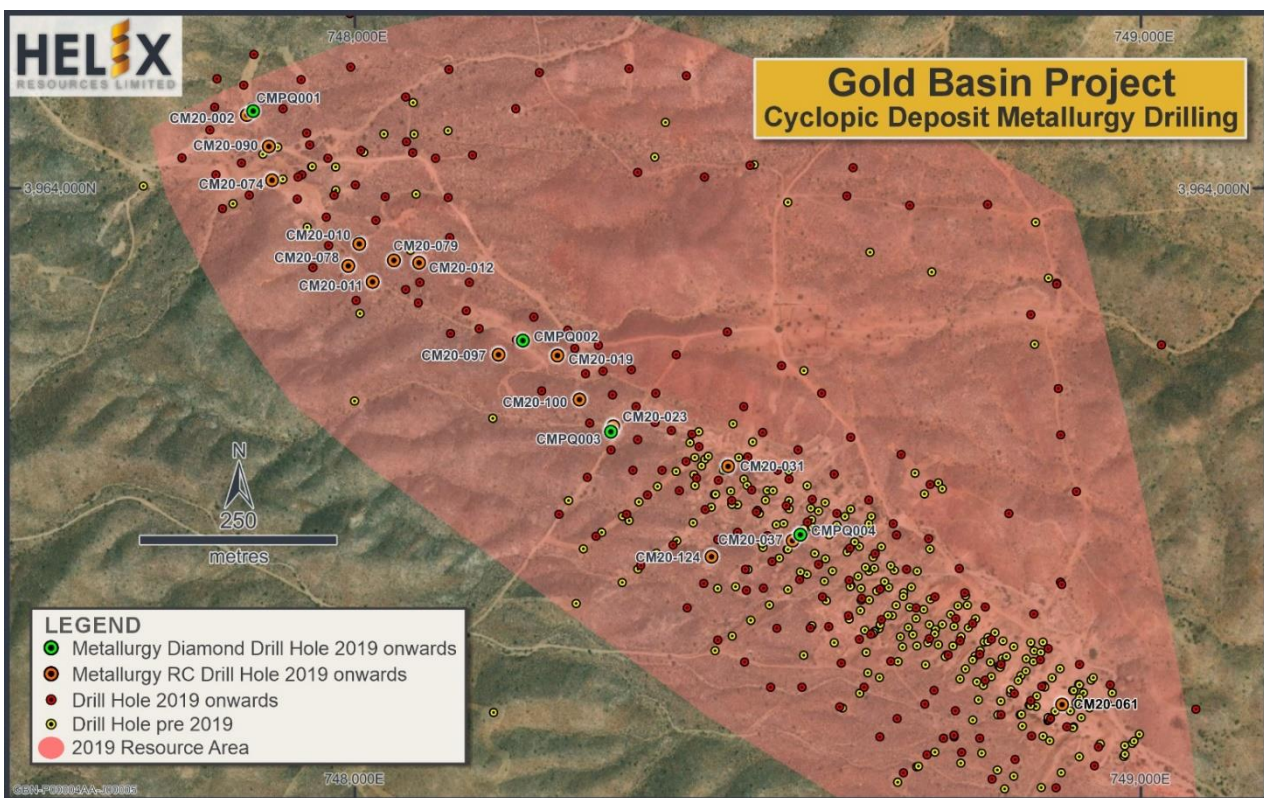
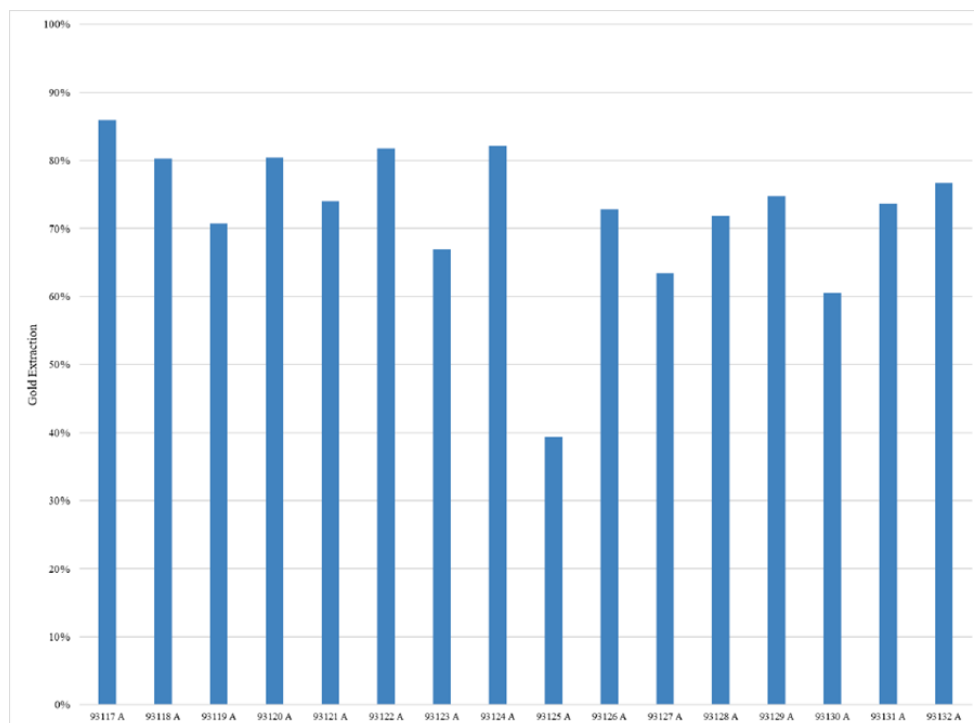

Figure 3: Collar locations of RC and PQ diamond drill holes sampled for metallurgical test work at Cyclopic.⁵ Diamond drill collar details shown in **Table 7**.
Figure 5: Gold Extraction for each composite sample
As preparation for these studies, the Company drilled four (4) PQ core diamond drillholes at 200 metres intervals along strike at the Cyclopic deposit (**Figure 3**). This drillhole interval sequence and depth of hole was determined to provide sufficiently representative mineralised samples for the planned testwork.
In late October 2021, Gold Basin submitted multiple oxide-gold sample interval composites from Reverse Circulation (RC) drill holes (**Table 6**) to metallurgy and process design experts Kappes, Cassiday & Associates (“KCA”) in Reno, Nevada. The samples were selected from 16 RC drill holes drilled at the Cyclopic deposit to provide a range of gold grades and a lateral and vertical distribution through the deposit (**Figure 3**). KCA sorted, weighed and composited the material into sixteen (16) separate composite samples, which were then prepared with approximately 80% passing 1-2mm in size for bottle-roll leach testwork (**Table 6**).
Sodium cyanide consumptions ranged from 0.01 kilograms per metric tonne to 0.09 kilograms per metric tonne, which is on the lower side of typical consumptions. Hydrated lime additions ranged from 0.50 kilograms per metric tonne to 1.50 kilograms per metric tonne. **Figure 5 and Table 1** illustrate the gold extractions for each composite sample.
Note: See note 1 to **Figure 5** above regarding Sample 93125A. Drillholes locations shown in **Figure 3**
Note: See note 1 to **Figure 5** above regarding Sample 93125A.
Note: See note 1 to Figure 5 above regarding Sample 93125A.